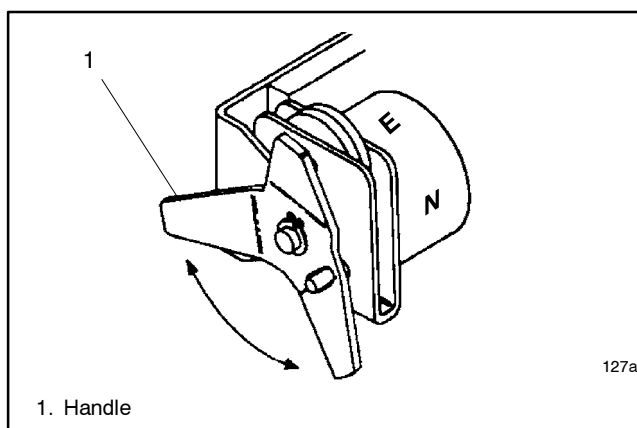

Figure 5-1 Manual operation handle, 30-200 amp switches
2. Turn the attached handle to manually operate the transfer switch. See Figure 5-1. It should operate smoothly without any binding. If it does not, check for shipping damage or construction debris.